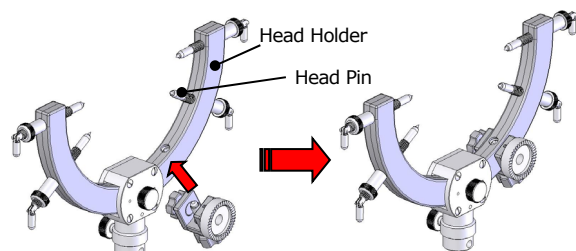

Figure 1
1. As shown in Figure 1, attach by screwing the Base Fixing Screw of the NV Adaptor into the screw hole for the Head Pin that is not being used for cranial fixation of the patient.